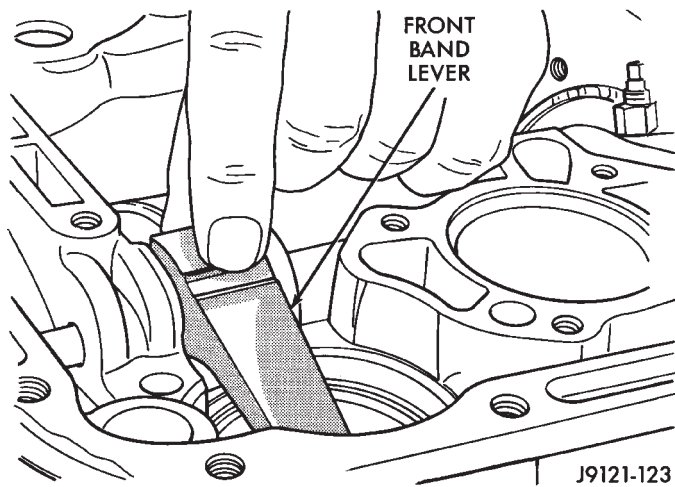
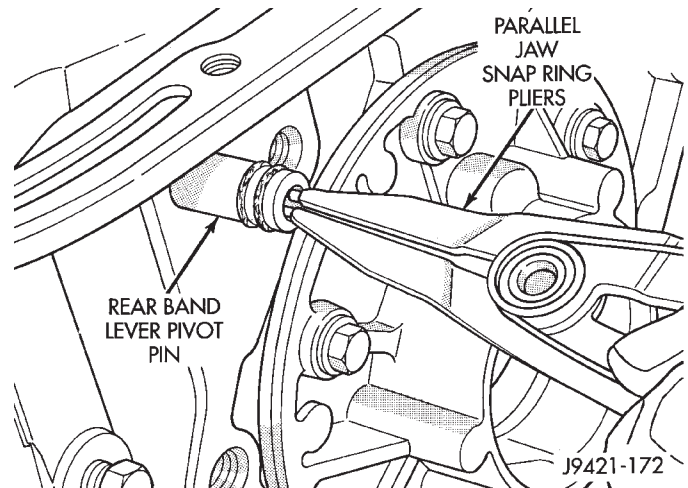
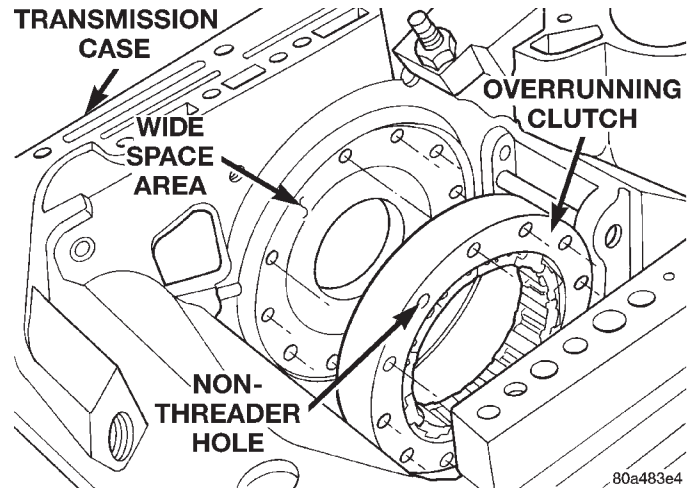

Fig. 92 Front Band Lever
Fig. 93 Rear Band Servo Lever Pin
Fig. 96 Clutch Cam Alignment
(c) Remove front band lever (Fig. 92).
(d) Using snap-ring plier, pull rear band lever pivot from transmission case (Fig. 93).
(3) Assemble link bar to band. Notched side of link toward band (Fig. 93).
(4) Insert rear band through pan opening in transmission case.
(5) Insert hook on band onto adjuster lever.
(6) Align holes in link bar with hole in transmission case outboard of rear support opening (Fig. 92).
(7) Insert anchor pin into case through link bar.
(8) Examine bolt holes in overrunning clutch cam. Note that one hole is **not threaded** (Fig. 96). This hole must align with blank area in clutch cam bolt circle.